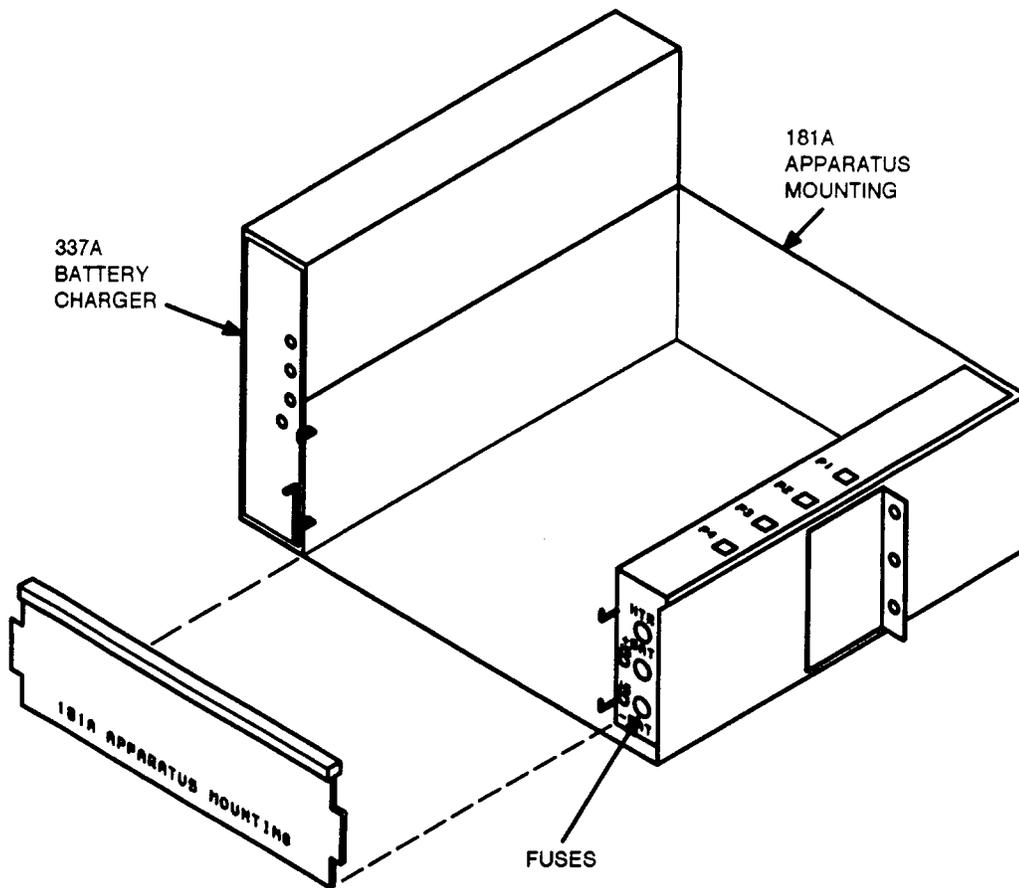

Figure 2 — Battery Shelf
22. At front of battery shelf, remove front cover by lifting cover up and out (Figure 2).